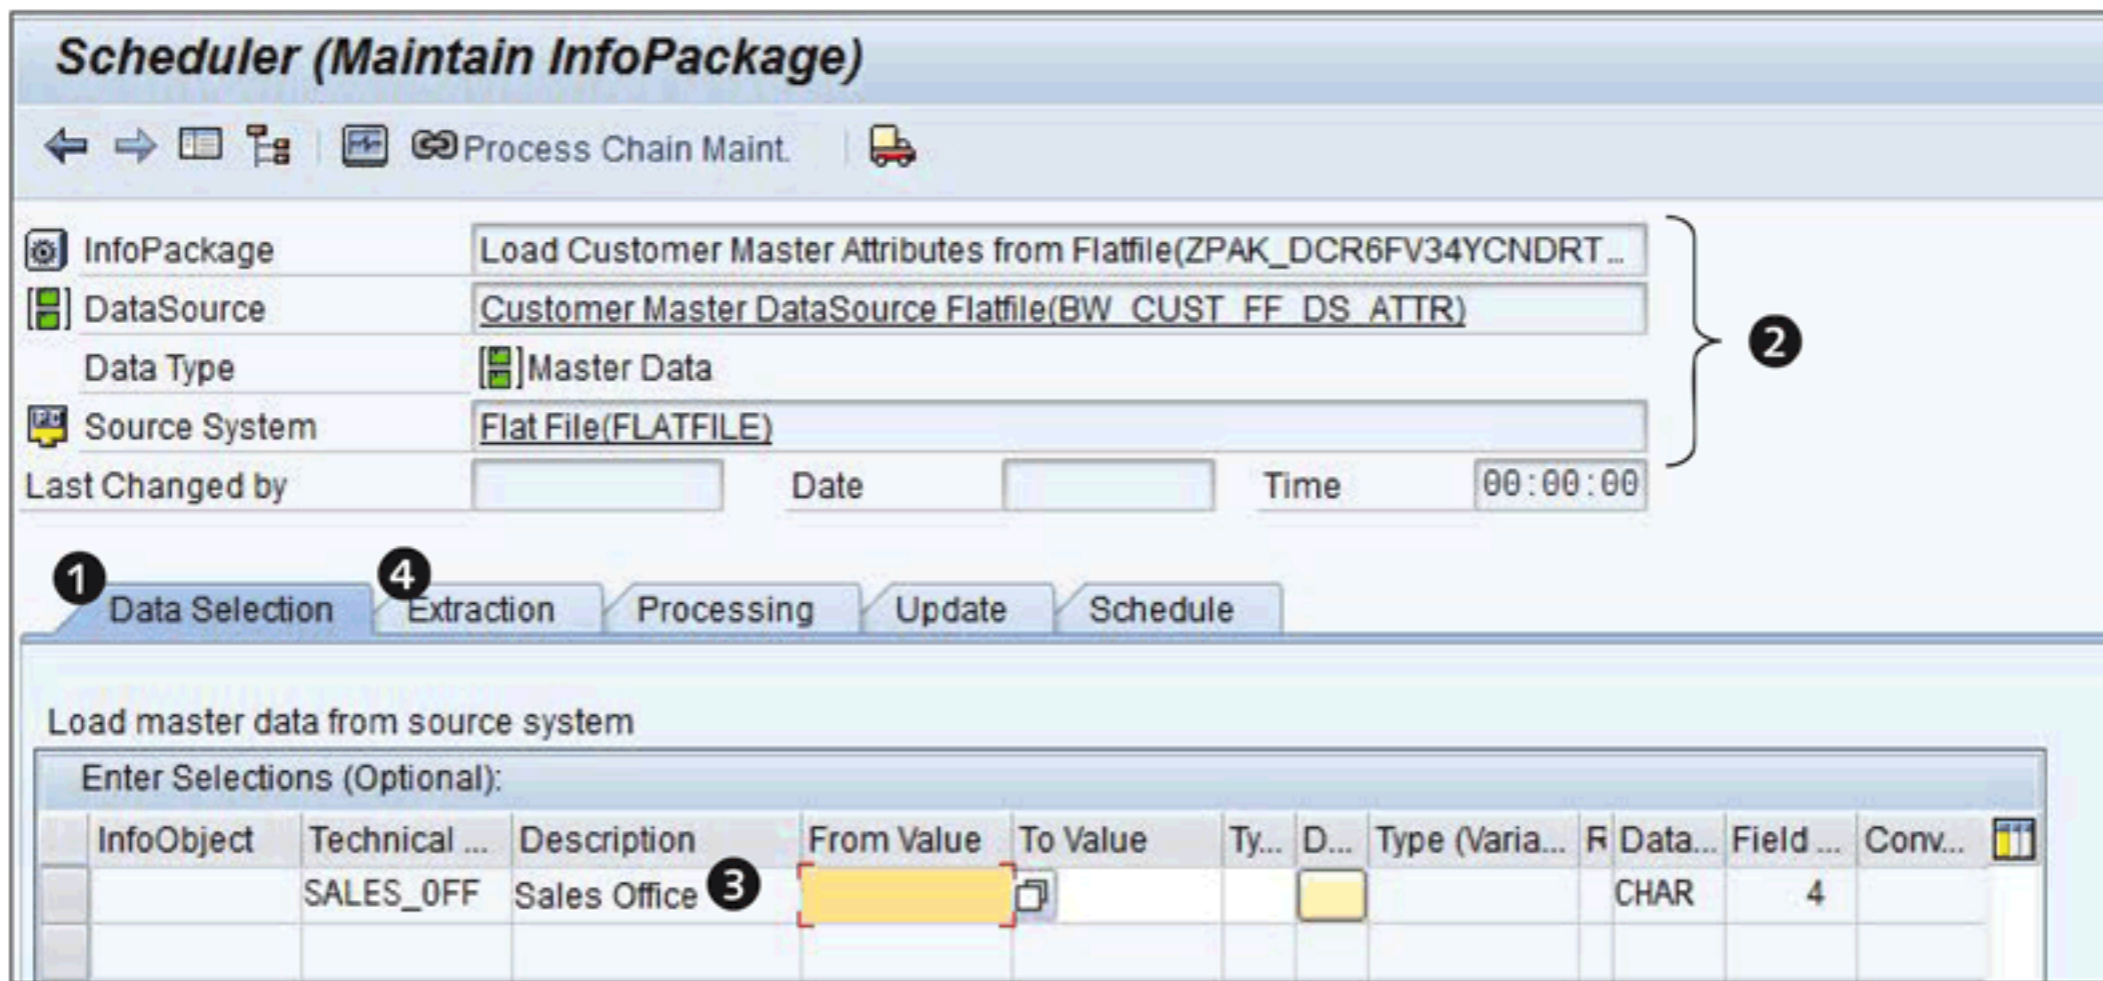
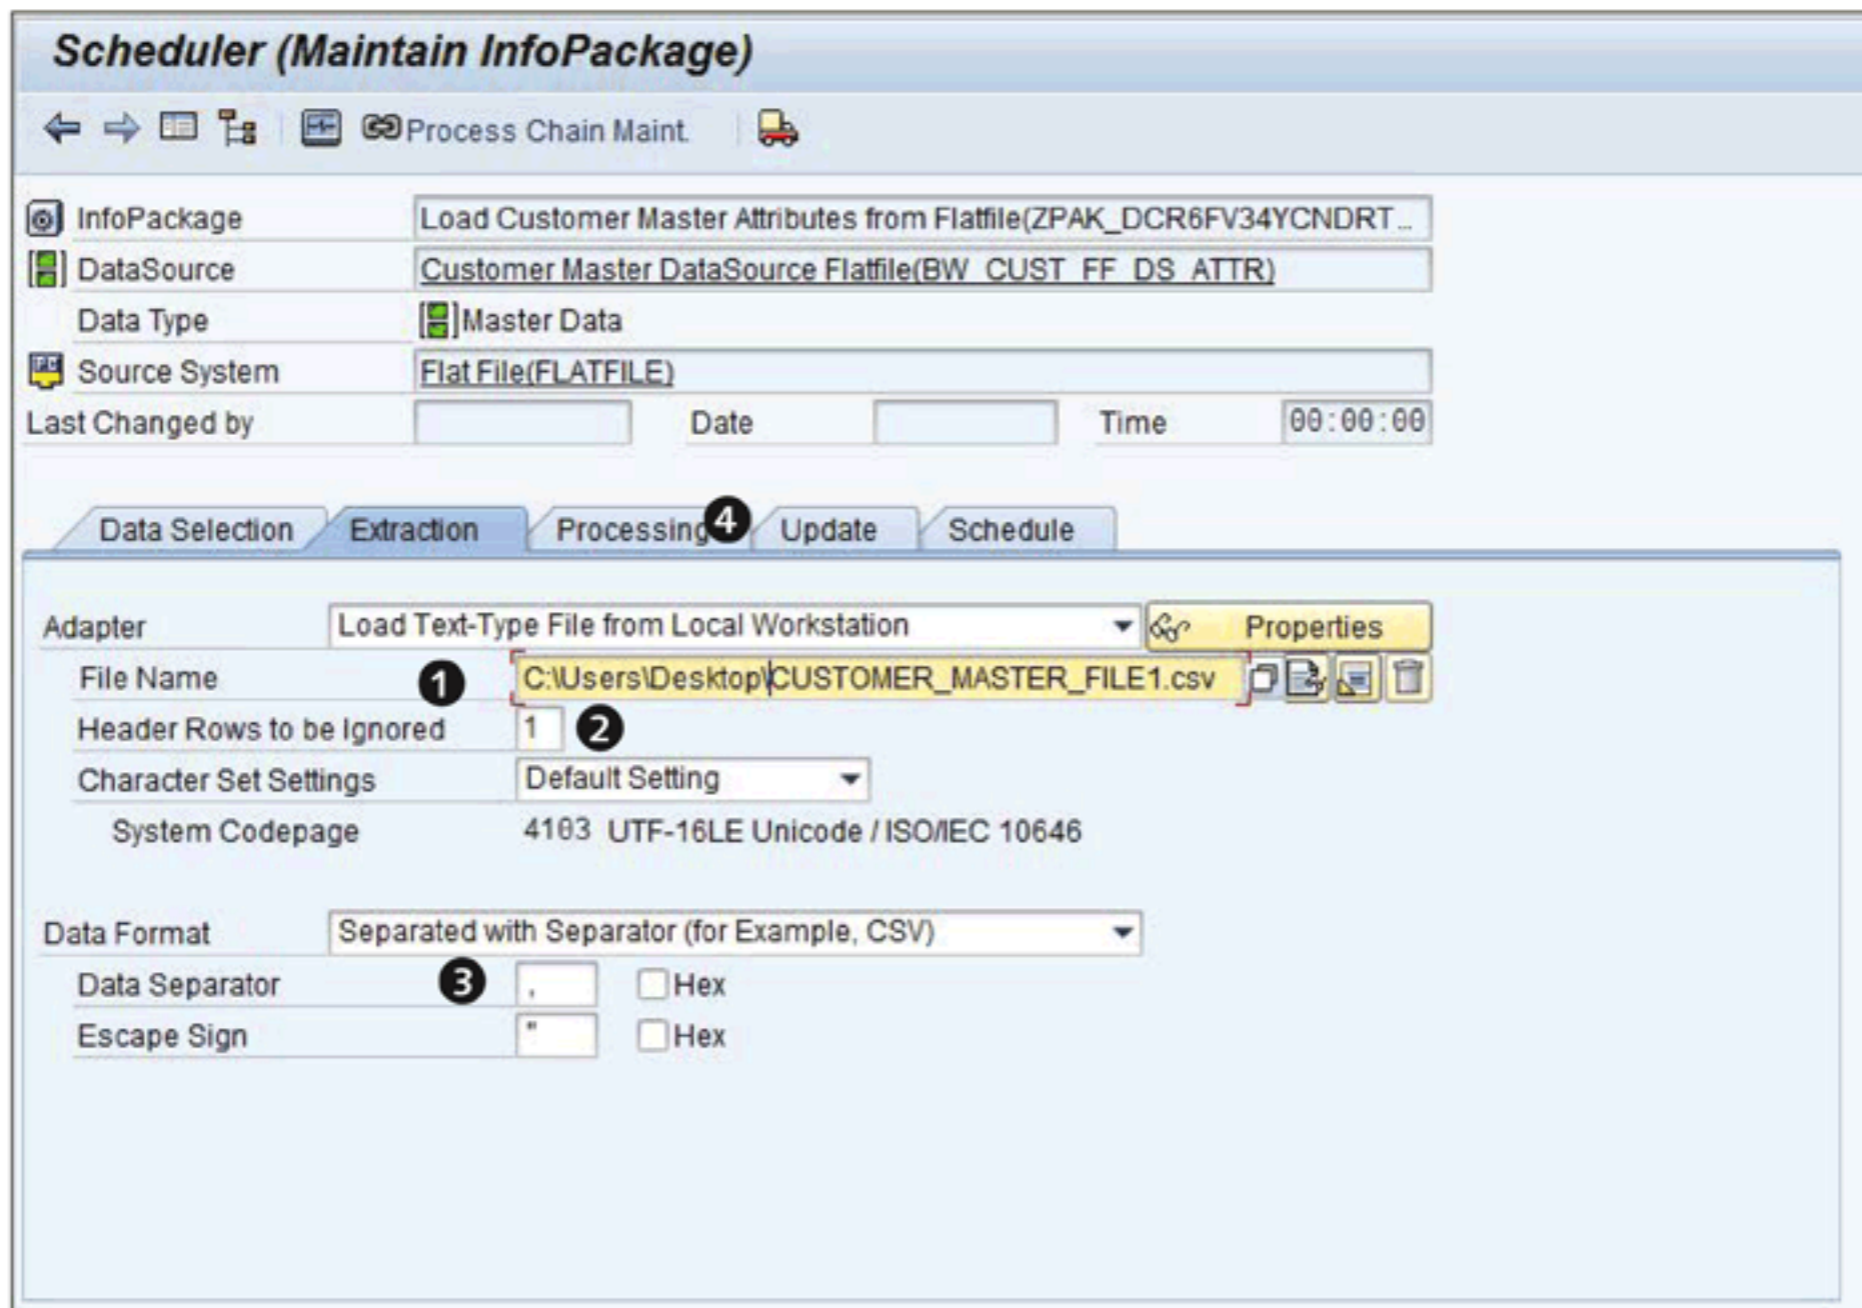

Figure 7.32 Creating an InfoPackage: Data Selection Tab
Figure 7.33 Creating an InfoPackage: Extraction Tab
This action opens up the InfoPackage maintenance screen shown in Figure 7.32. The five different tabs here are explained next.
The DATA SELECTION tab (1 of Figure 7.32) is displayed by default. This screen also shows details such as the DataSource, data type, and source system for which the InfoPackage is created (2). Each InfoPackage is given a unique technical name by the SAP NetWeaver BW system, which always starts with ZPAK_*
As shown in ❸ of Figure 7.32, this is the only field offered for filtering records based on the value for SALES_OFF. This was configured when creating DataSource BW_CUST_FF_DS_ATTR, under the FIELD tab (refer to Figure 7.15). You can enter the value of a sales office as either a single value (e.g., 1768) or an interval (e.g., 1700 to 1799). The DataSource extracts data from the source system only for the entered values. Filling this field is optional; leaving it blank means that the system will extract all records from the source system. For our example, we keep the selection value blank.
Click on the EXTRACTION tab (❹ of Figure 7.32). The details of the EXTRACTION tab are shown in Figure 7.33.
This tab details information such as location, actual file name, type of file, and so on; the details are automatically provided based on the EXTRACTION tab of the DataSource definition (refer back to Figure 7.11). You can change details such as file name, header rows to be ignored, data separator, and so on (❶, ❷, and ❸ of Figure 7.33). Most of the settings available on this tab page are editable, but nothing needs to be changed for our example.